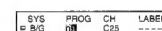

Fig. 5
- Select the second element of the double-digit number with  $\Delta$  or  $\nabla$  or the number buttons (e.g. For »04«, select »4« here) (See Fig. 5.) and press OK.